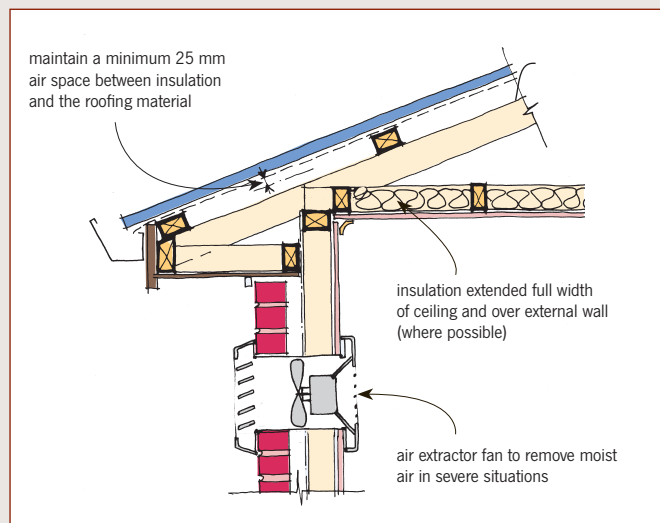

Figure 2: The cure – better insulation and improved ventilation.
- Insulation was added to the roof space to fully cover the area where it was missing and, where possible, it was carried onto the top plates (although it is essential to leave a minimum 25 mm air gap between the insulation and the roofing underlay). See Figure 2.